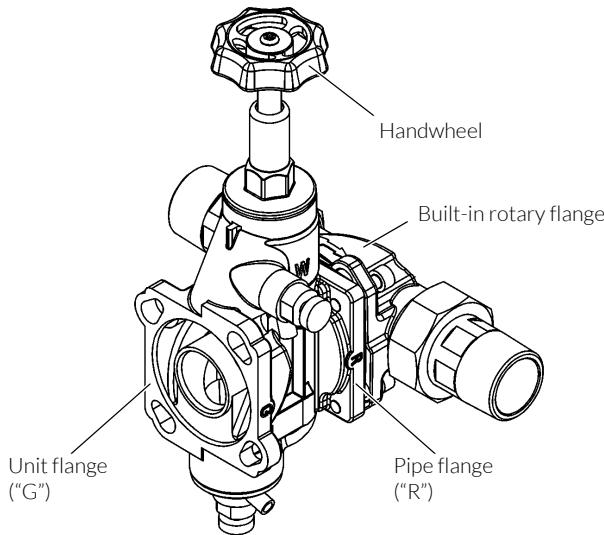

Fig. 6: Bypass valve
- / Connect the bypass valve on the flange side with the cast in letter "R" (pipe flange) to the built-in rotary flange by engaging the bayonet fitting (see fig. 6).